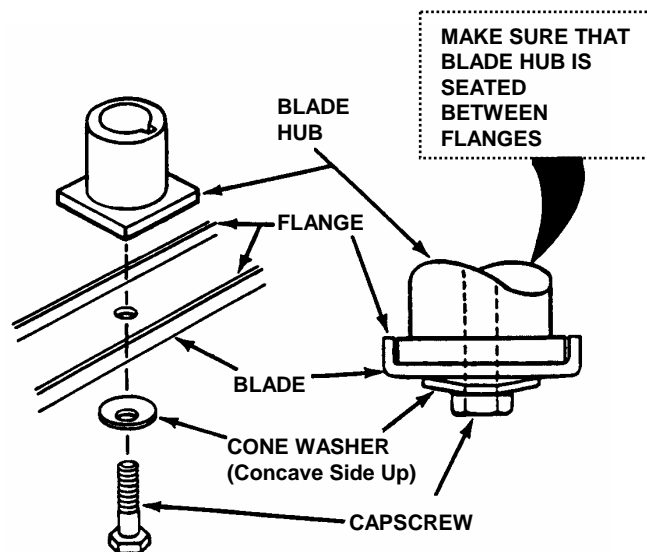

FIGURE 4.2
3. Remove blade. See Figure 4.2.
6. Reinstall blade. See Figure 4.2. Check torque of blade retaining cap screw. Recommended torque should be 30 to 40 ft. lbs.